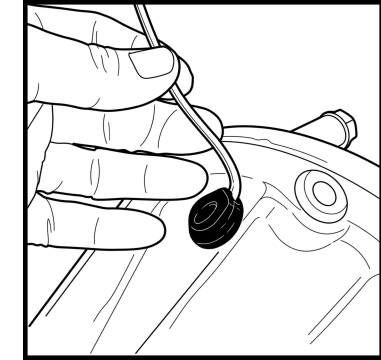

Fig. 28
3.22 While holding the rubber seal in place with one hand, pull the end of the cable through the side opening with the other hand. This will allow the magnet cable to rotate and lock into position at a 90° angle in the cable gland. (Fig. 28)